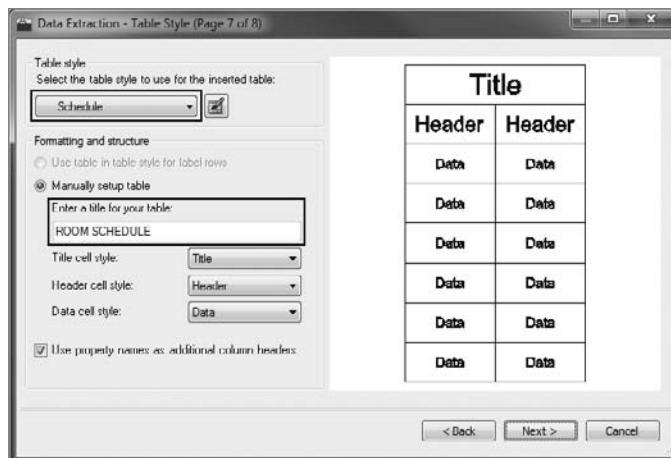

FIGURE 9.78 Picking the Table Style to be used, and entering a title for the table
11. After you've chosen to insert the data extraction table into your drawing, the Data Extraction Wizard will prompt you to select which table style you would like to use along with a title for your table. Verify that the Schedule table style is selected inside the Table Style portion of the dialog box, and then enter ROOM SCHEDULE in the Enter A Title For Your Table text box (see Figure 9.78). Click Next to continue.